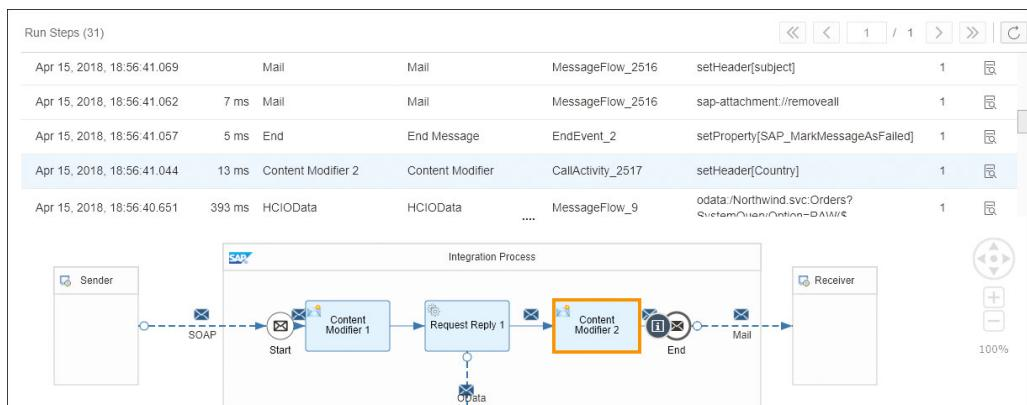

Figure 6.17 The Monitoring Application Shows the Individual Steps during Message Processing
An overview of the message processing steps and the integration flow model appears below the list of steps (Figure 6.17).
5. Click on the entry for the second **Content Modifier**. The corresponding shape is highlighted in the integration flow model, as shown in Figure 6.17.
The message header fields (on top) and the message payload (at the bottom) are shown. Figure 6.18 shows the section with the message header for the selected step shown in Figure 6.17.
- Notice the overview with the integration flow model shown earlier in Figure 6.17.